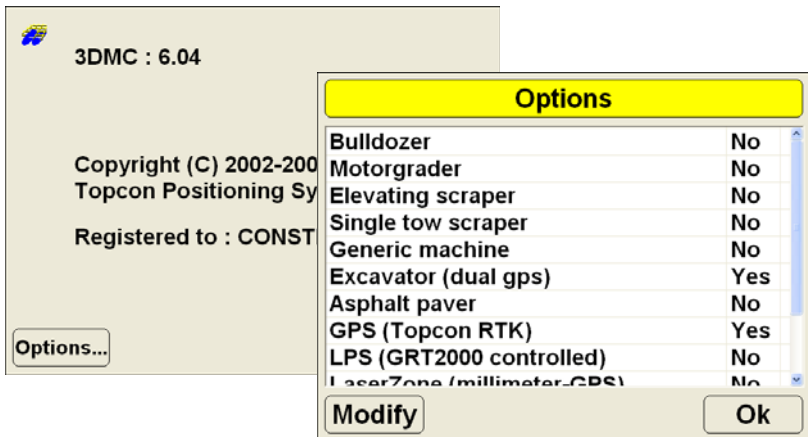

Figure 2-12. About 3DMC and GX-60 Options for 3Dxi
To view the enabled options for the GX-60 control box, press **Topcon Logo ▶ View ▶ About 3DMC**. The *about 3DMC* dialog box displays the version number, copyright date, publisher, and registered user (Figure 2-12) for the 3DMC software.
To view options enabled in the control box for 3Dxi, press **Options** (Figure 2-12). See the following section for details on modifying the options for system upgrades or updates.
1. To modify options, navigate to the *Options* dialog box and press **Modify** (Figure 2-12).